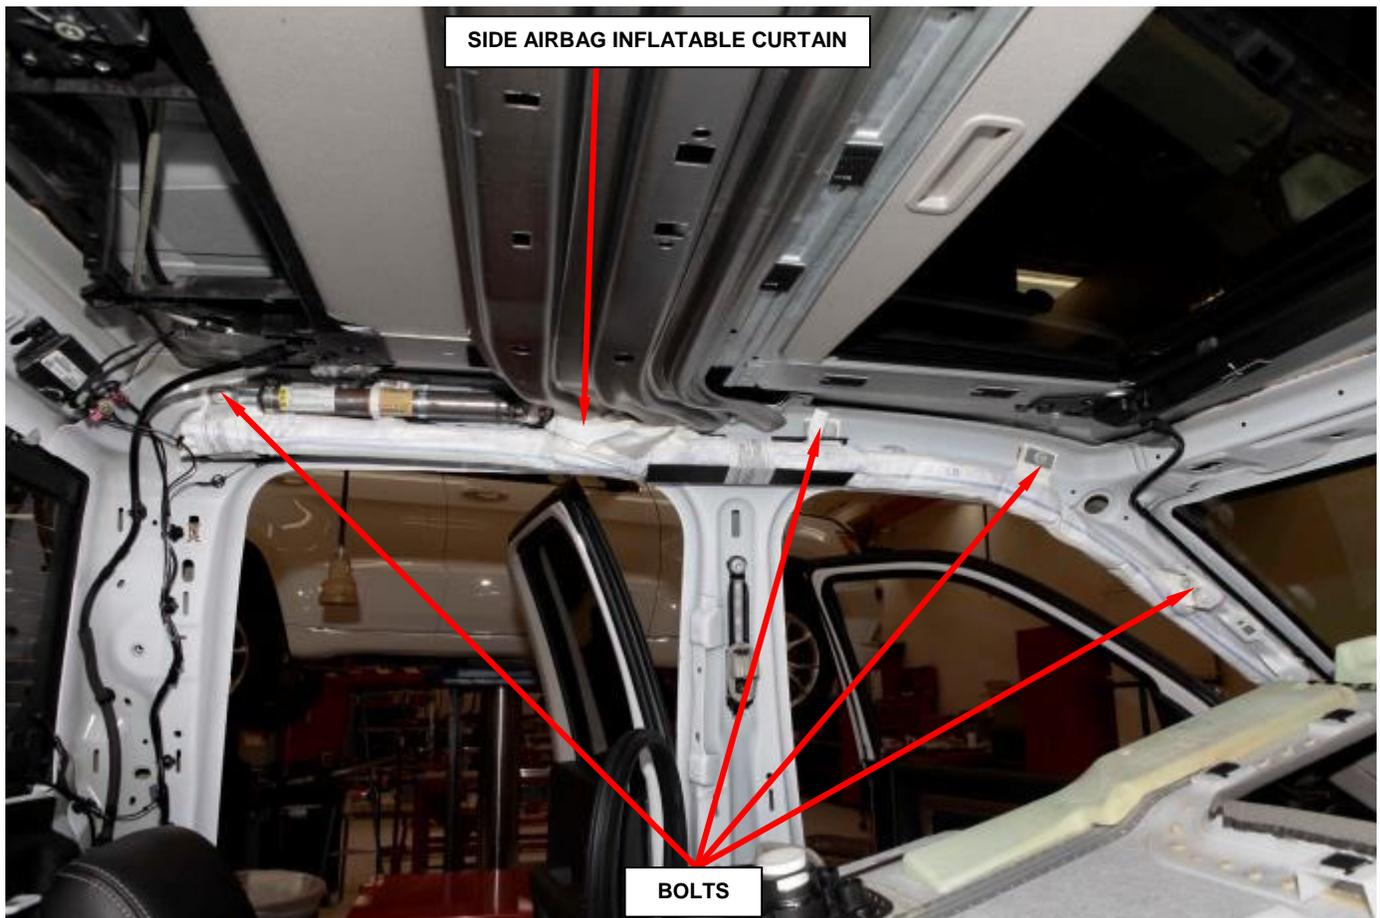

Figure 27 – Side Airbag Inflatable Curtain Bolt Locations
1. Remove the four bolts that secure the side airbag inflatable curtain to the inner roof rail (Figure 27).
13. Working from rear to front, install and tighten the four bolts that secure the side airbag inflatable curtain to the spring nuts in the inner roof rail. Tighten to 70 in. lbs. (8 N·m) (Figure 27).